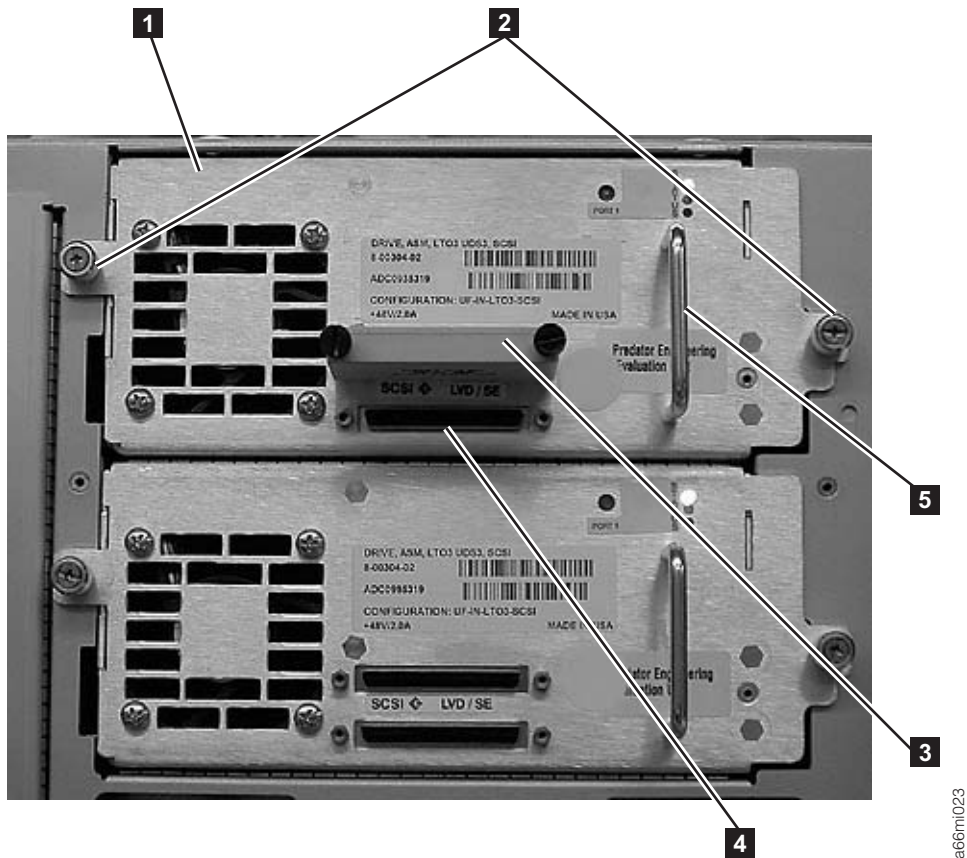

Figure 3-30. Tape Drive (detail)
2. Grasp the handle ( **5** in Figure 3-30 on page 3-31) and slowly slide the drive sled into the drive slot, while supporting the drive sled from underneath.
3. Tighten the two thumb screws ( **2** in Figure 3-30) that hold the drive sled in place by turning them clockwise.